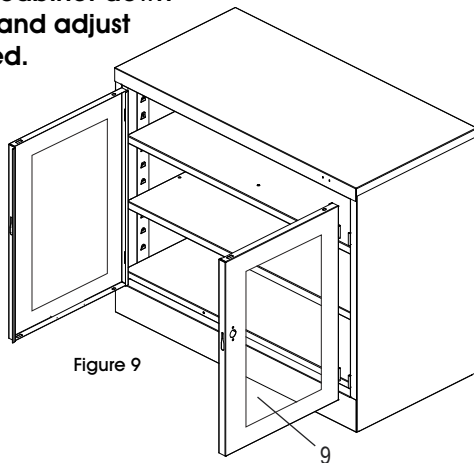

Figure 9
10. Attach the right door (9) to the unit in the same way the left door was attached. (See Figure 9)